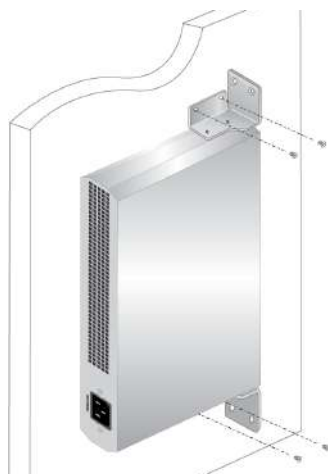

Figure 15. Driving the Screws through the Holes
8. Position the switch on the wall and drive screws through the holes to attach the brackets on the wall. See Figure 15.